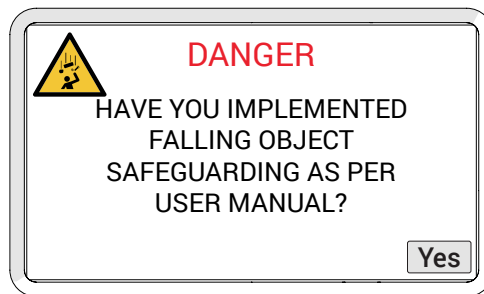

Fig. 205 - Falling object warning
6. A second warning message (*Fig. 205*) will display. Acknowledge this warning by touching **Yes**.